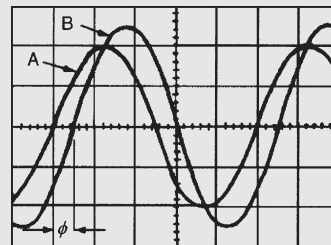

Figure 10.20
**Problem 10.** For the double-beam oscilloscope displays shown in Fig. 10.20 determine (a) their frequency, (b) their r.m.s. values, (c) their phase difference. The ‘time/cm’ switch is on 100 μs/cm and the ‘volts/cm’ switch on 2 V/cm.